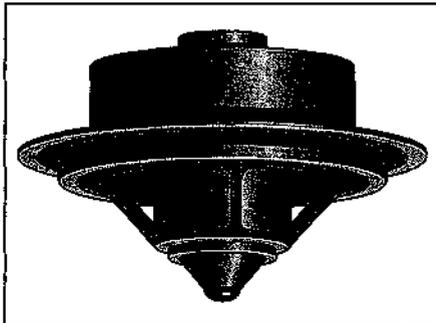

Figure 14-17:
7. Drop in the new thermostat, making sure to place the spring side down (see Figure 14-17); then replace the bolts.